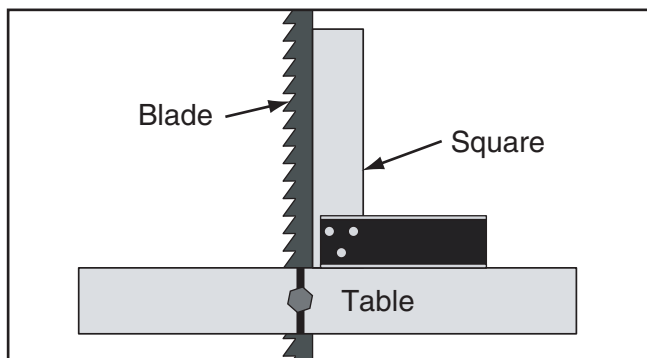

Figure 57. Squaring back of blade and table.
- Place a square on the table and against the back of the blade, as shown in **Figure 57**. The table should be perpendicular to the back of the blade.